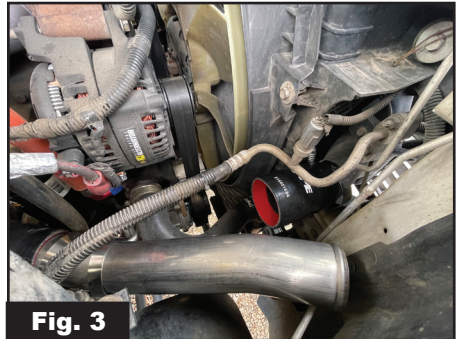

Fig. 3
Step 6. *Install the Passenger Side CAC Tube (A) into the Offset Silicone Coupler (C), then into Silicone Coupler (D). Make any final adjustments and tighten all hose clamps (Fig. 3 & 4).*